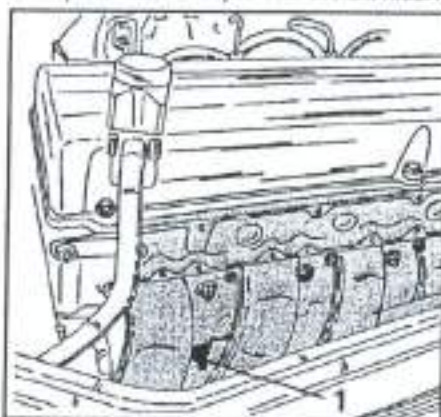

Fig. 1.83 - The coolant drain plug (1) in the side of the cylinder block.
- Unscrew the coolant drain plugs. One is located at the bottom of the radiator. A second plug is fitted to the cylinder block, but rather hidden at the position shown in Fig. 1.83. Poke a piece of wire into the bore to dislodge sludge, if the coolant flow is restricted. To ensure that the cooling system is filled without air lock, proceed as follows when filling in the coolant. Refer to Section 1.8.1.0 for the correct anti-freeze amount to be added. Anti-freeze marketed by Mercedes-Benz should be used, as this has been specially developed for the engine.